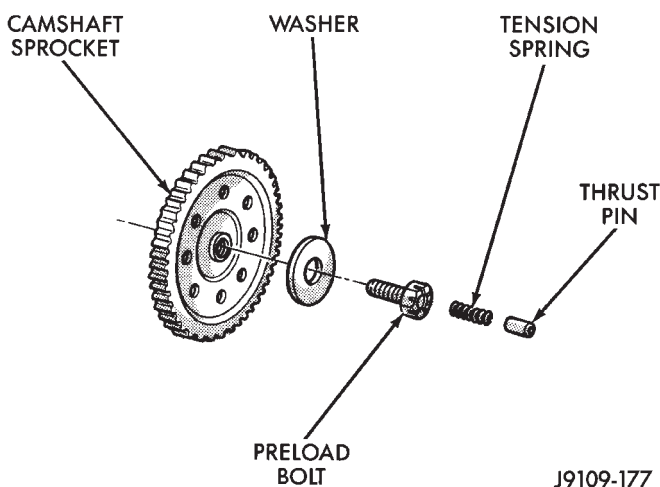

Fig. 42 Camshaft Sprocket Preload Bolt
- (7) Remove the oil slinger from the crankshaft.
- (8) Remove the tension spring and thrust pin from the preload bolt (Fig. 42). Remove the camshaft sprocket retaining preload bolt and washer.
(1) Apply Mopar Silicone Rubber Adhesive Sealant to the keyway in the crankshaft and insert the key. With the key in the keyway on the crankshaft, install the assembly on the crankshaft and camshaft.
(2) Install the camshaft sprocket retaining preload bolt and washer (Fig. 42). Tighten the preload bolt to 108 N·m (80 ft. lbs.) torque.
- (4) Install the crankshaft oil slinger.
- (5) Replace the oil seal in the timing case cover.
- (6) Lubricate the tension spring, thrust pin and pin bore in the preload bolt with Mopar Engine Oil Supplement, or equivalent. Install the spring and thrust pin in the preload bolt head (Fig. 42).
- (7) Install the timing case cover and gasket.